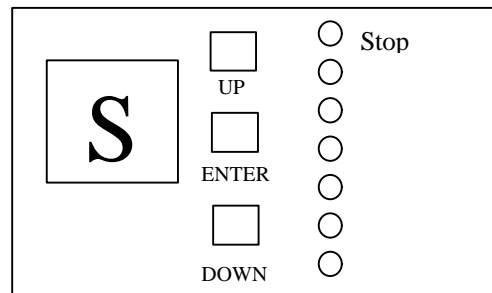

Figure 2
2. After the machine has been turned on, it will beep once and the table top will rotate to the "home" position. The user interface module will be in the STOP mode, which is indicated by the "S" on the module's display (Figure 2).